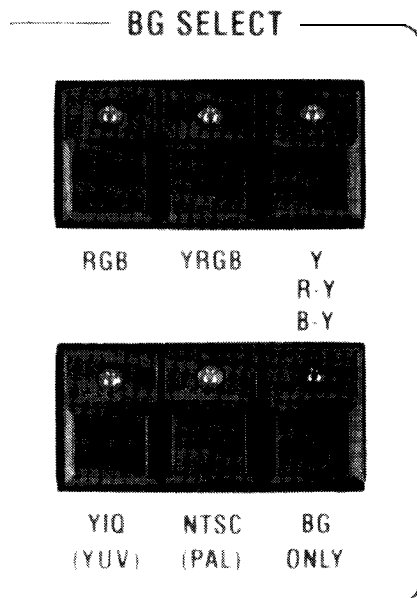

Figure 4-3. Background Select Control Group
**4-12. BG SELECT.** (See figure 4-3.)